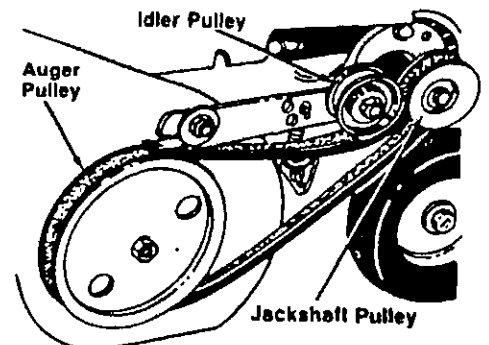

Fig. 7
2. Pull upward on the idler pulley and slip the belt off jackshaft pulley (See Fig. 7).
3. Release idler pulley and slip the belt off auger pulley (See Fig. 7).